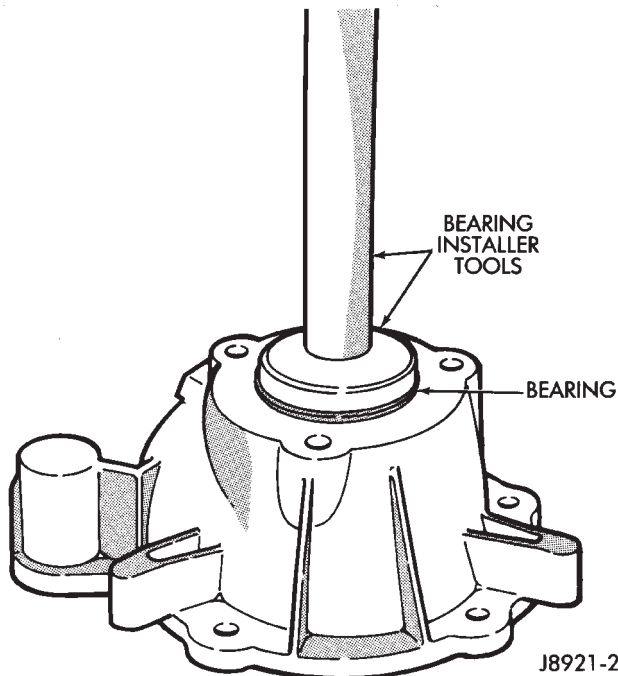

Fig. 76 Installing Rear Bearing In Retainer
(64) Tap rear retainer bearing out of retainer with hammer and brass drift.
(65) Install new bearing in rear retainer with driver tools (Fig. 76).